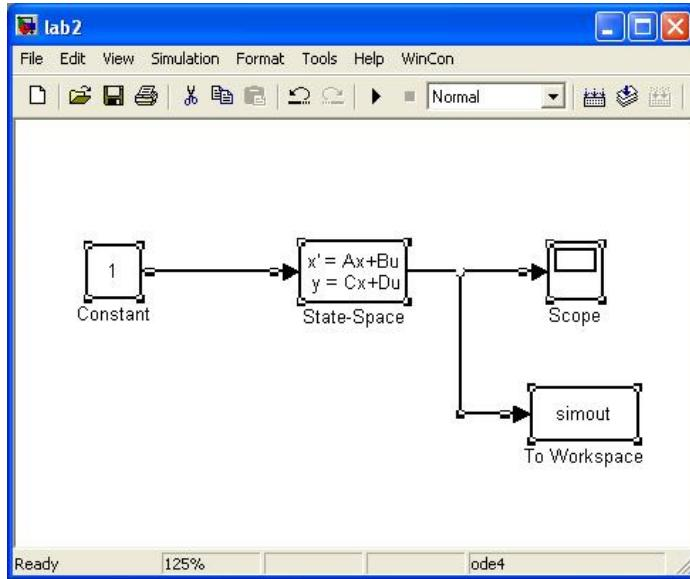

Figure 5.2: Simulink model for Lab 5
1. Build the Simulink model as shown in Figure 5.2. The model applies a constant voltage to the dynamic model defined by \mathbf{A} , \mathbf{b} , \mathbf{c} , and \mathbf{D} defined previously. The output is the current in the circuit.